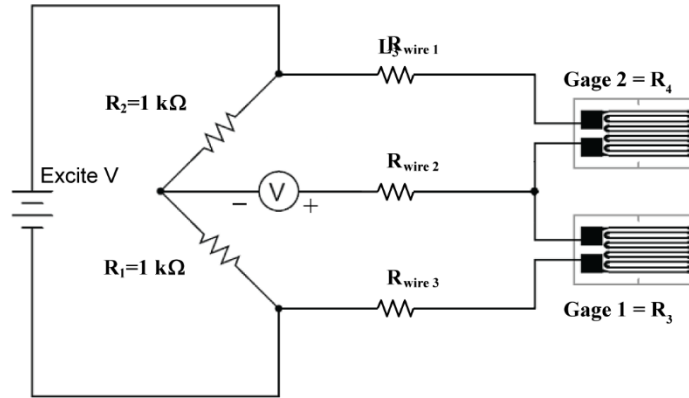

FIGURE 7-16. Half-bridge bending strain circuit
The half-bridge bending strain configuration is shown in FIGURE 7-16. It is used solely to measure bending strain. The two gauges should be positioned on opposite sides of the member being measured such that they experience strains of equivalent magnitudes, but in opposite directions, as the member is bent. In other words, one gauge would undergo compression while the other gauge would experience tension. The backplane of the Wheatstone bridge ( $R_1$  and  $R_2$ ) can be made up of a matched pair as is done in the Campbell Scientific's 4WFBS TIM modules.
**Half-Bridge Bending CRBasic Programming:** A program for measuring half-bridge bending strain, along with zeroing and shunt calibration functions, is very similar to a program for the quarter-bridge strain circuit covered in CRBasic Example 7-3. The only difference is the **BrConfig** option code should be set to **-3** for the circuit shown in FIGURE 7-16, and the function code for the **FieldCalStrain()** function should be set to **33**.